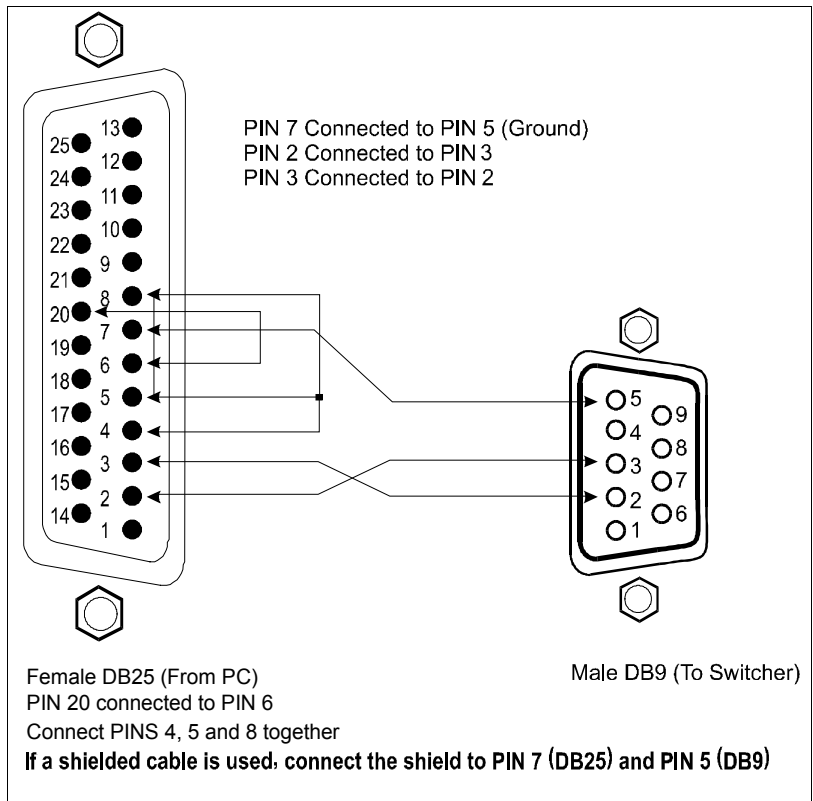

Figure 10: Connecting a PC (with a 25-pin connector) without a Null-modem Adapter
1. Connect the PC’s DB25 COM port to the RS-232 IN DB9 port on the unit, as Figure 10 illustrates: